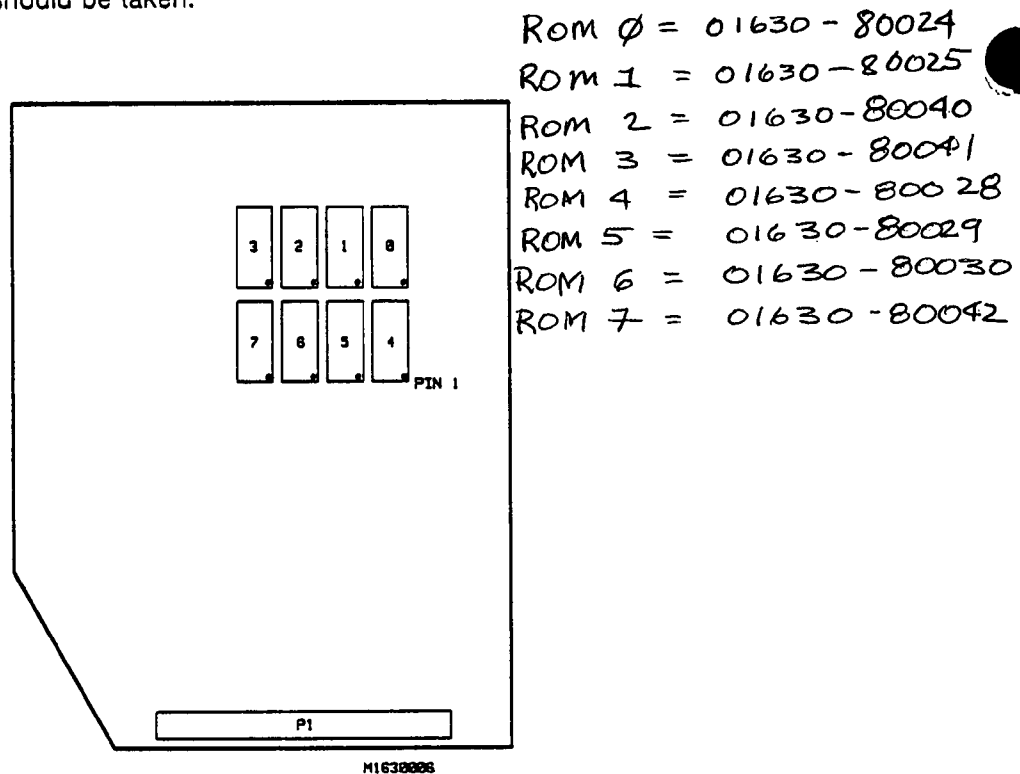

Figure 1. ROM Locations
- 10) Install the eight program ROMs from the upgrade kit. Figure 1 shows the proper order of installation.